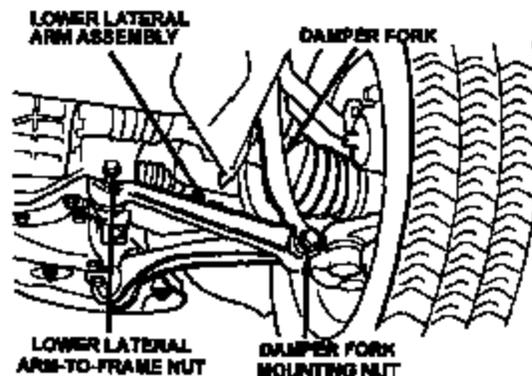

Figure 3
5. Loosen, but do not remove, the lower lateral arm-to-frame mounting nut and bolt (Figure 3).
6. Remove the damper fork mounting bolt and nut (Figure 3).
7. Remove the lower lateral arm-to-frame mounting nut (Figure 3). Pull the bolt rearward far enough to clear the lateral arm bushing and remove the lower lateral arm from the vehicle.
9. Place the new lower lateral arm into position and loosely install the lower lateral arm-to-frame mounting nut and bolt, but do not tighten (Figure 3).
10. Loosely install the damper fork mounting nut and bolt, but do not tighten (Figure 3).
15. With full vehicle weight on the suspension, torque the left and/or right lateral arm-to-frame mounting nut and bolt to 78 ft. lbs. (106 N·m) (Figure 3).
16. Torque the left and/or right damper fork mounting nut and bolt to 64 ft. lbs. (88 N·m) (Figure 3).